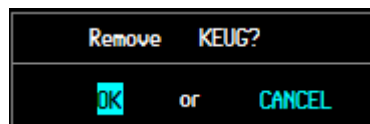

Figure 7.8
- 9.2 click on the CLR button to popup a remove window (Figure 7.8).